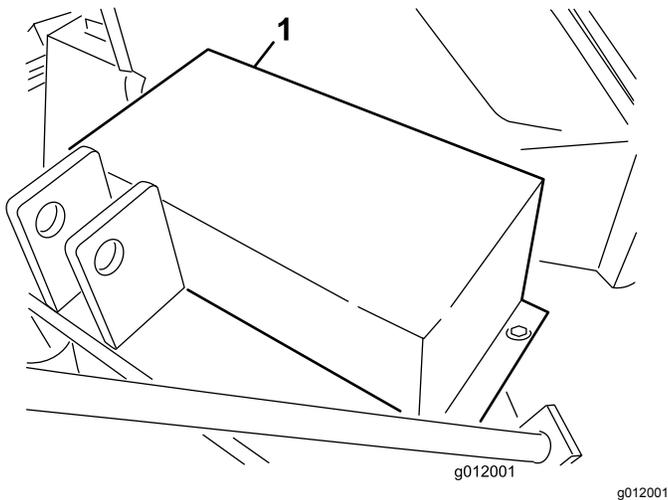

Figure 13
1. Remove the capscrews, washers, and nuts securing the belt guard to the blower housing (Figure 13).
2. Remove the belt guard (Figure 13).